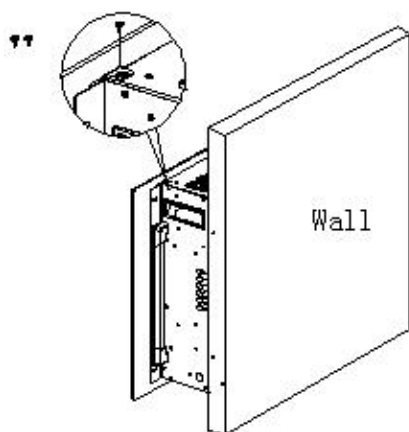

Fig 1.
STEP 6A. With you or someone holding the glass panel, remove the two screws at the top edge of the fireplace with a Phillips (+) screwdriver. **Fig 1.**